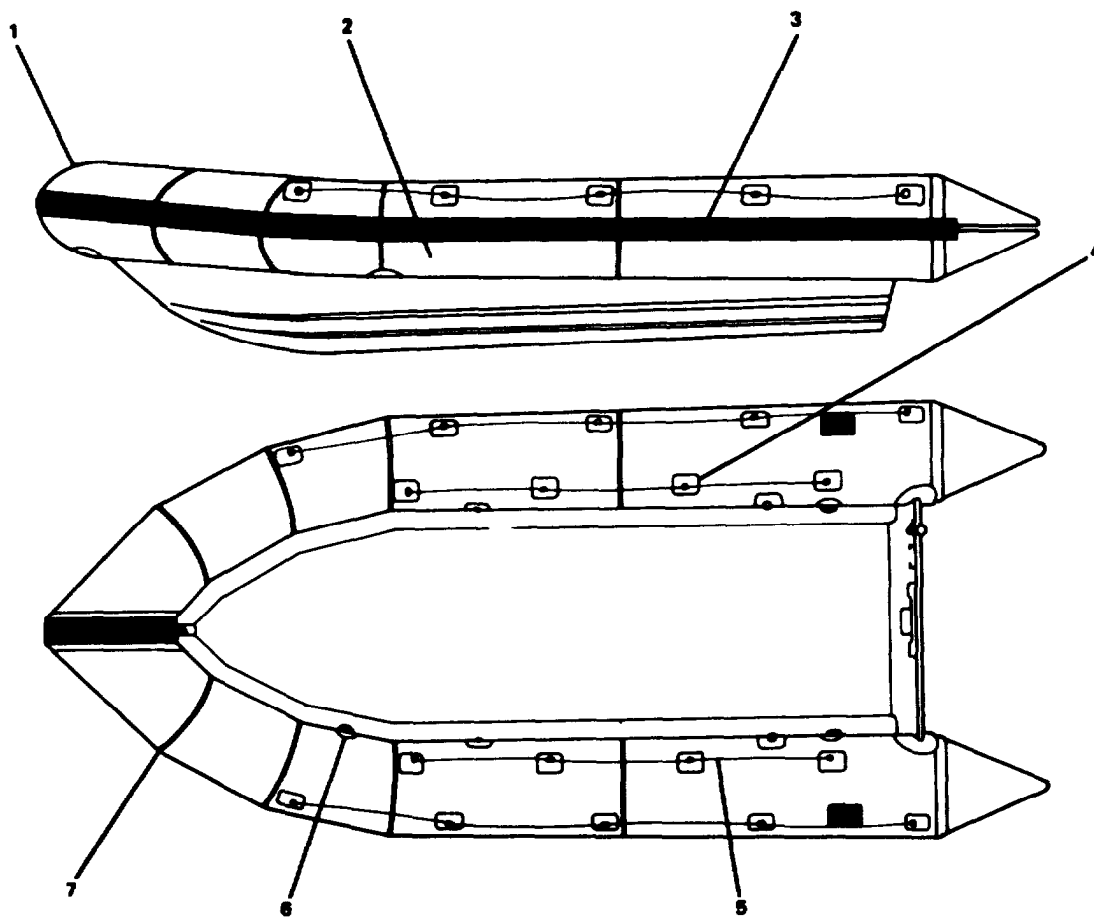

FIGURE 2-185. Inflatable Boat Repair.
**2-215. Repair/Replace Inflatable Rat Boat. (FIGURE 2-185)**